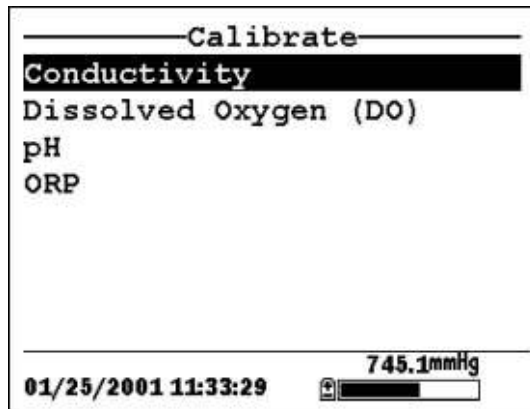

Figure 6.2 Calibrate Screen
2. Use the arrow keys to highlight the **Conductivity** selection. See Figure 6.2 Calibrate Screen.
- 15.** Press **Escape** to return to the calibrate menu. See Figure 6.2 Calibrate Screen .
- 2.** Use the arrow keys to highlight the **Dissolved Oxygen** selection. See Figure 6.2 Calibrate Screen.
- 11.** Press **Escape** to return to the calibrate menu. See Figure 6.2 Calibrate Screen.
11. Press **Escape** to return to the calibrate menu. See Figure 6.2 Calibrate Screen.
2. Use the arrow keys to highlight the **pH** selection. See Figure 6.2 Calibrate Screen.